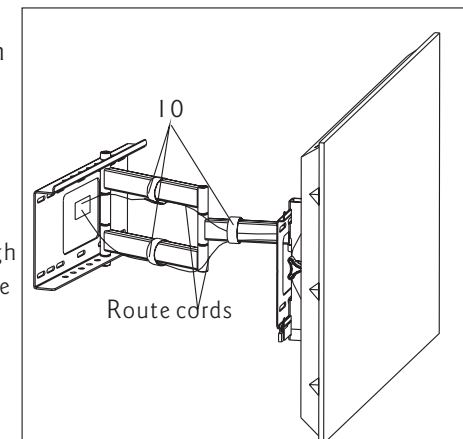

Fig 4a
Remove the Cord cinchure from box. Use Cord cinchure(10) bind Route cords to Cantilever Arm in needful location. As shown in Fig. 4a.